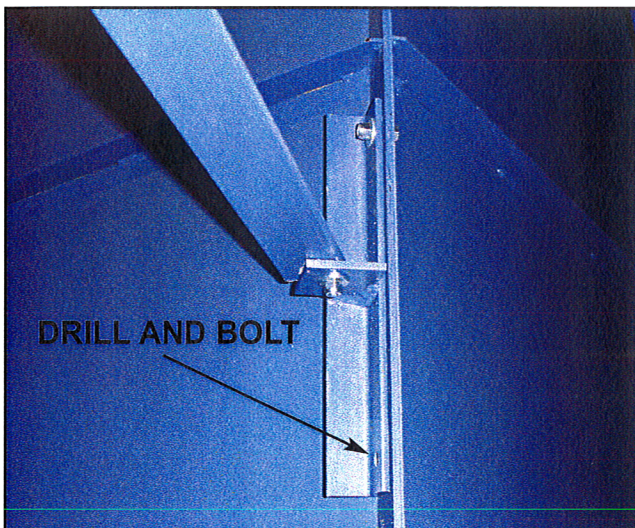

Figure 7
2. Use angle attachments to brace unit. Drill through unit flanges to attach to unit. Use shipping angles that are provided to attach to the customer's building, mezzanine, etc. See Figure 7.